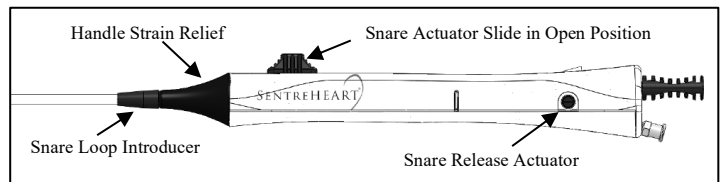

Figure 3 Opening the Delivery Snare
9. If using the SoftTIP or Trocar, advance the Snare Loop Introducer from the handle towards the tip until it covers the closed Delivery Snare. Introduce the LARIAT RS into the SoftTIP or Trocar. Pull back the Snare Loop Introducer until it locks to the Handle Strain Relief as shown in Figure 3.
10. To open the Delivery Snare, advance the Snare Actuator Slide until it stops and Delivery Snare is fully open as represented by the "O" (oval) symbol as shown in Figure 3.